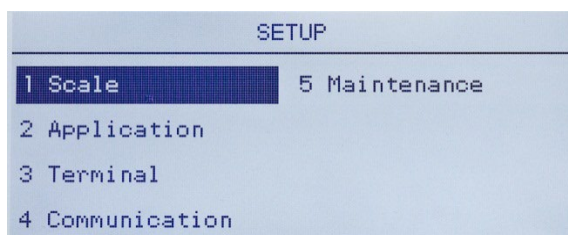

Figure 3-28: Setup Menu – Reset
1. Press the MENU key then select the setup icon . Figure 3-28 shows the first page of the setup menu, with the five main branches displayed.